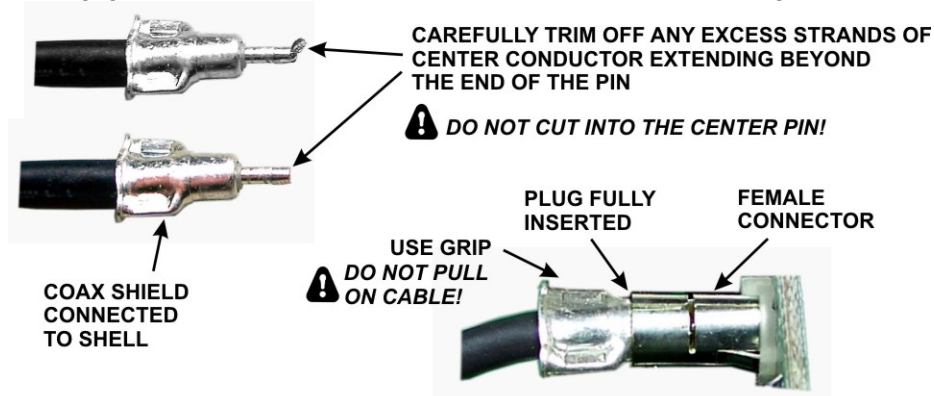

Figure 22. TMP Connectors.
- Locate the TMP coaxial cable. Plug one end into J902 on the RF board and the other end into RF IN, J100 on the front panel board. The connectors simply press into the sockets and are held in place by friction. If a connector refuses to engage, check for excess loose center conductor wires (see Figure 22).
The TMP connectors on the coaxial cable joining the front panel and RF boards are friction fit. To remove, pull on the metal ears on the connector. A slight twisting motion will help free a tight connector. ***Pull on the metal ears. Do not pull on the coaxial cable*** (see Figure 22 on page 68).